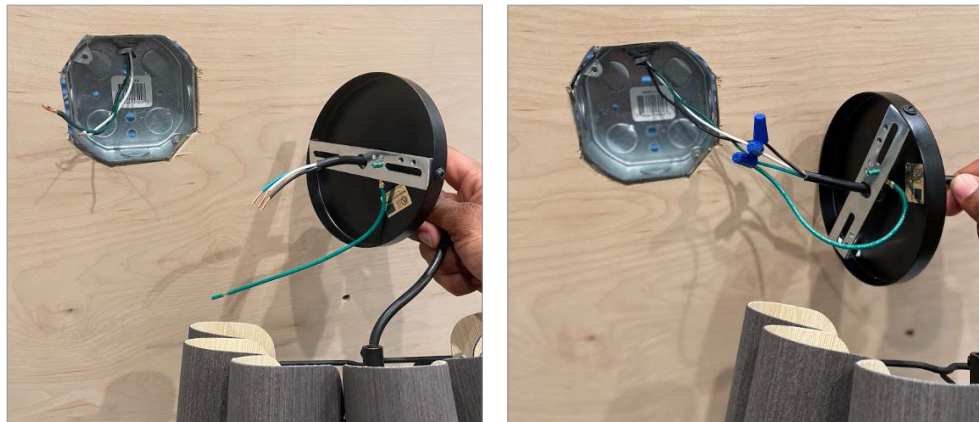

Fig.1a: Wiring for junction box to fixture.
Locate wires from fixture. Use (3) wire nuts to connect neutral, live and ground wires from the junction box and fixture (Fig.1a).